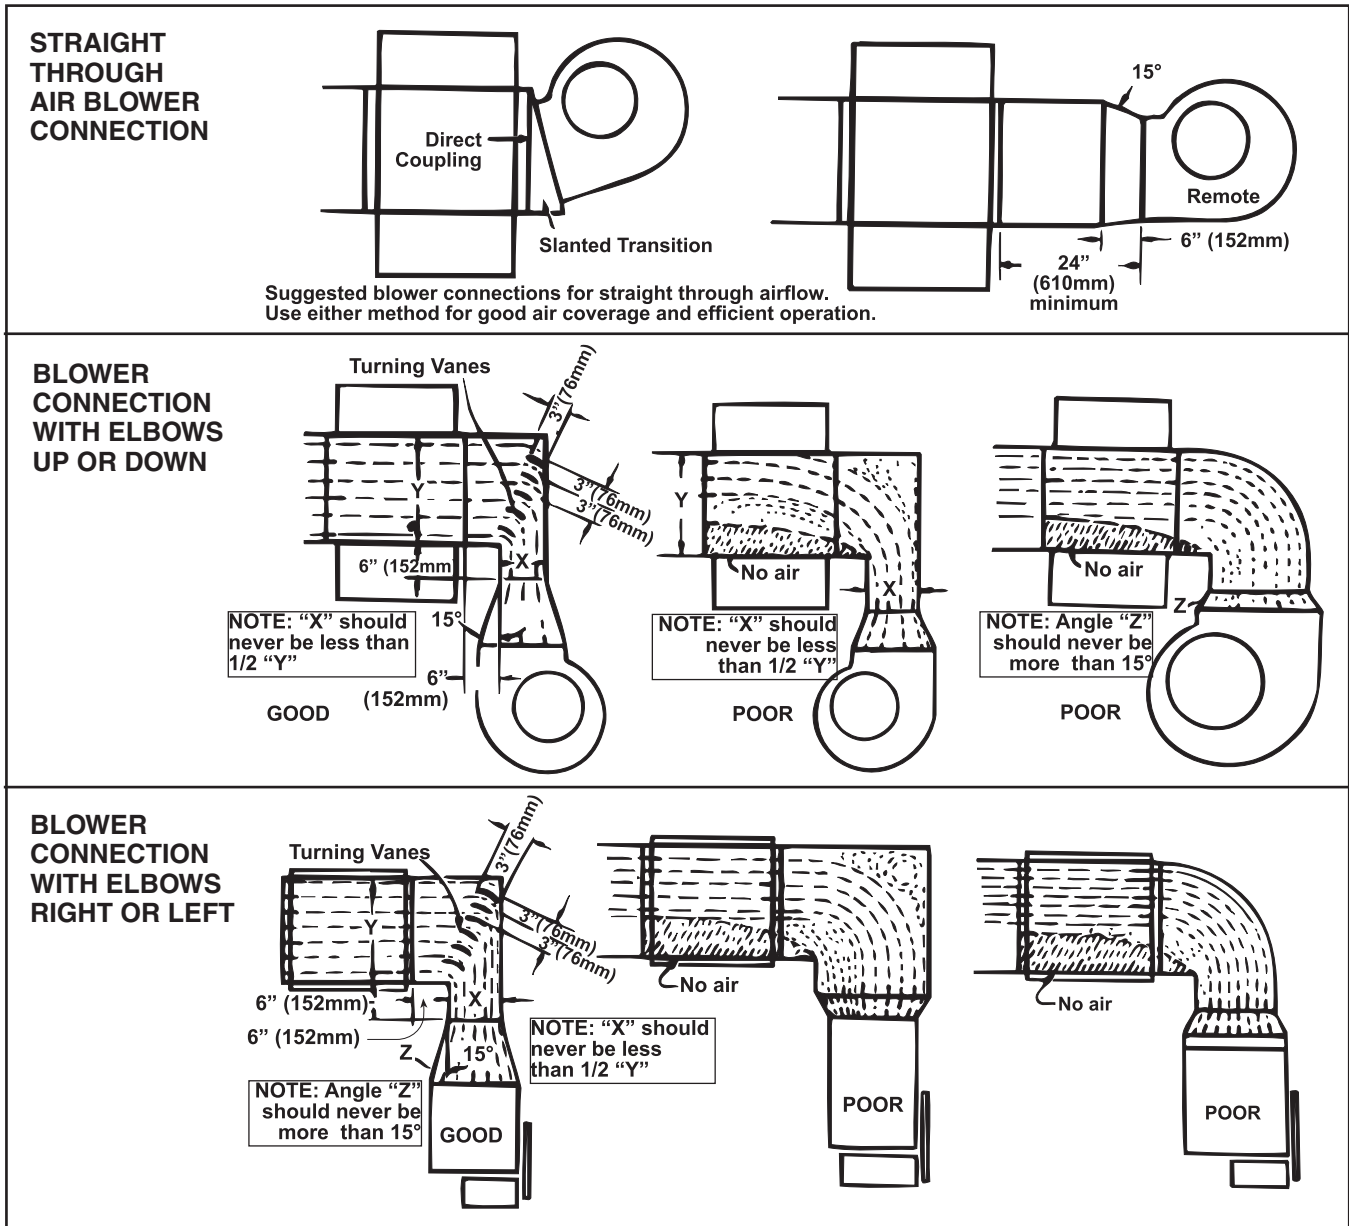

Figure 10. Duct Furnace Blower Connections
- Proper arrangements of blower and duct furnace with respect to angle of approach of the duct connection and the arrangement of the discharge opening of the blower are shown in Figure 10.